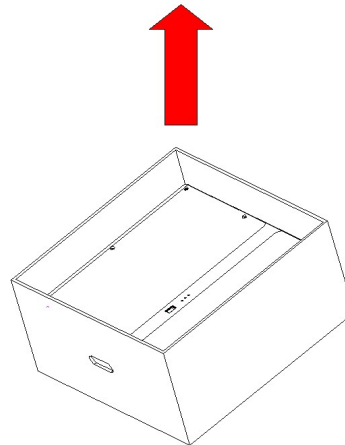

Figure 2.6 Remove Storion-SMILE-B3 Packaging
Step 1: Take out Storion- SMILE-B3 from the packaging box, as shown in Figure 2.6.